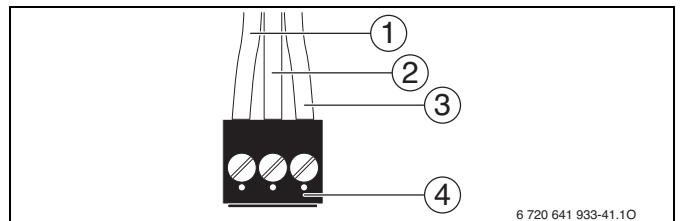

Fig. 45 Attach plug (external pump)
- ▶ Connect cable to **the black plug** according to Fig. 45.